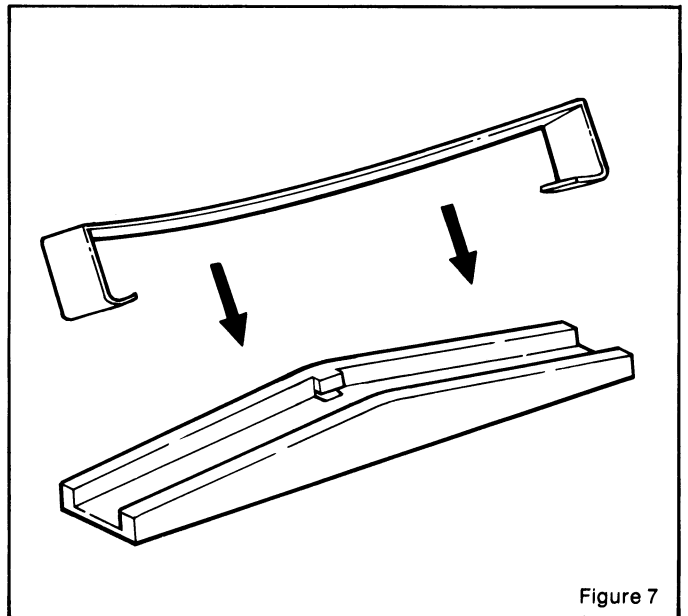

Figure 7
1. Snap metal strain relief clip into plastic strain relief channel. (Figure 7) Tilt clip slightly when placing in channel to ease insertion.